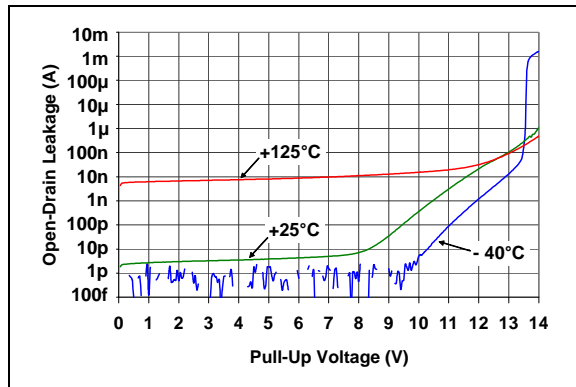

FIGURE 2-33: Open-Drain Leakage Current vs. Voltage Applied to V_{OUT} Pin (MCP121-195).
- Note 5:** This specification allows this device to be used in PIC[®] microcontroller applications that require In-Circuit Serial Programming[™] (ICSP[™]) (see device-specific programming specifications for voltage requirements). This specification DOES NOT allow a continuous high voltage to be present on the open-drain output pin (V_{OUT}). The total time that the V_{OUT} pin can be above the maximum device operational voltage (5.5V) is 100s. Current into the V_{OUT} pin should be limited to 2 mA and it is recommended that the device operational temperature be maintained between 0°C to 70°C (+25°C preferred). For additional information, please refer to Figure 2-33.